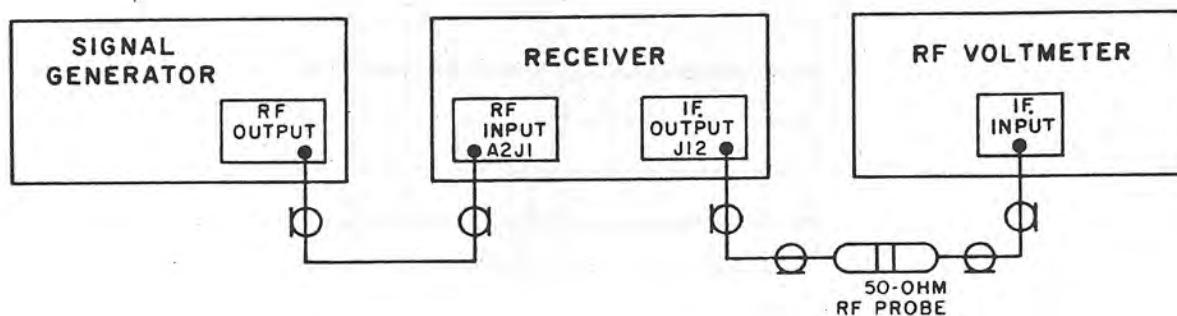

Figure 6-3. Input Converter Alignment, Test Setup
- (2) Connect test equipment as shown in figure 6-3.